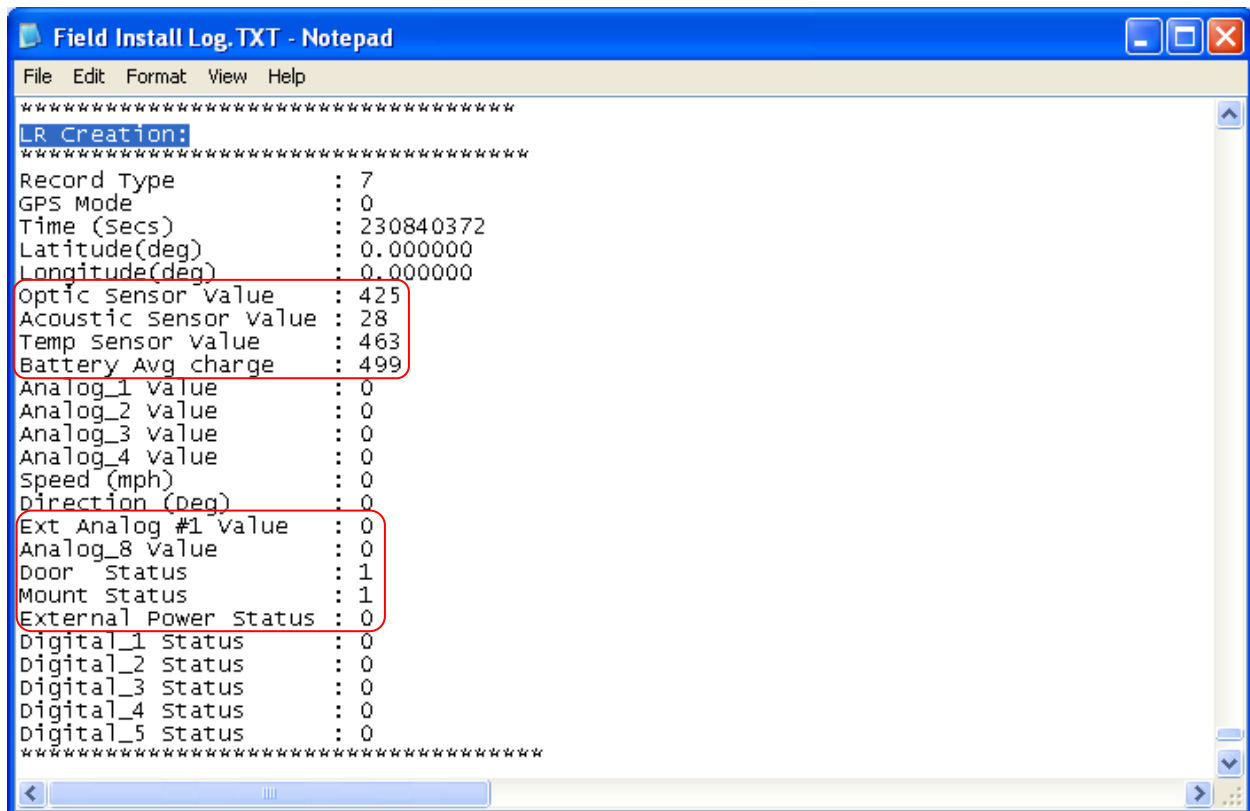

Figure 2.3
- 2.6 As shown in Figure 2.3, the sensor values are listed below the "LR Creation" line.